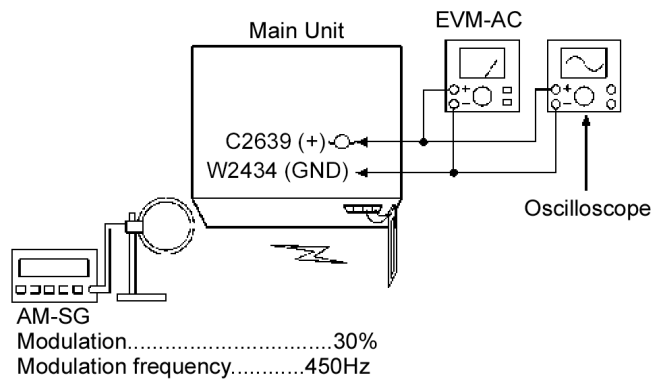

Fig. 5
1. Set up the equipments as shown in Fig. 5.
3. Apply signal as shown in Fig. 5 from AM-SG.